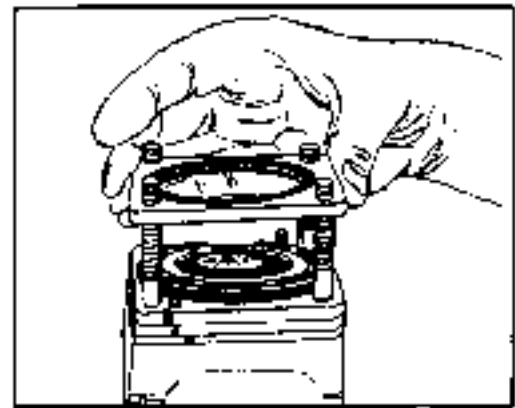

FIGURE 10.
Remove the valve ring (12), discard the two seal rings (3). See figures 10 and 11. The valve ring should be free of nicks and scoring.